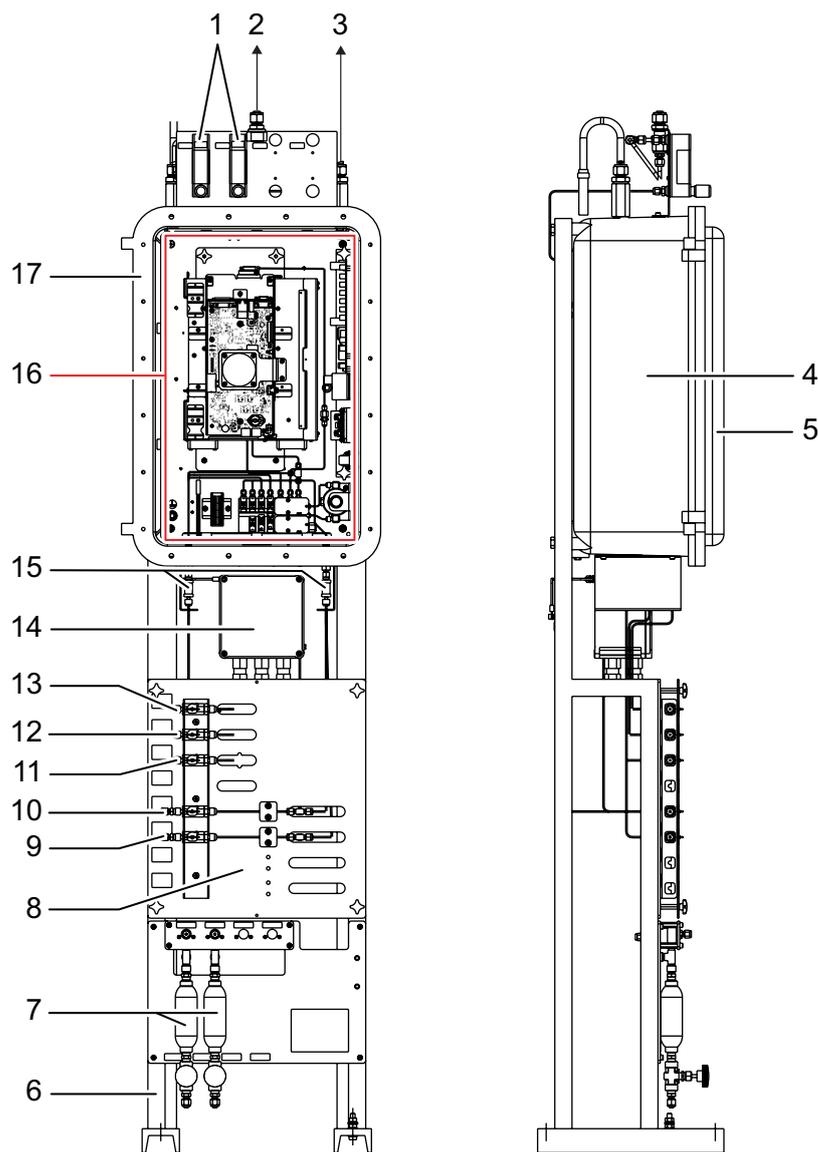

Fig. 3: Process gas chromatograph PGC 9301 with housing and frame for floor-mounted assembly
- PGC 9301 with housing and frame for floor-mounted assembly (see fig. 3)